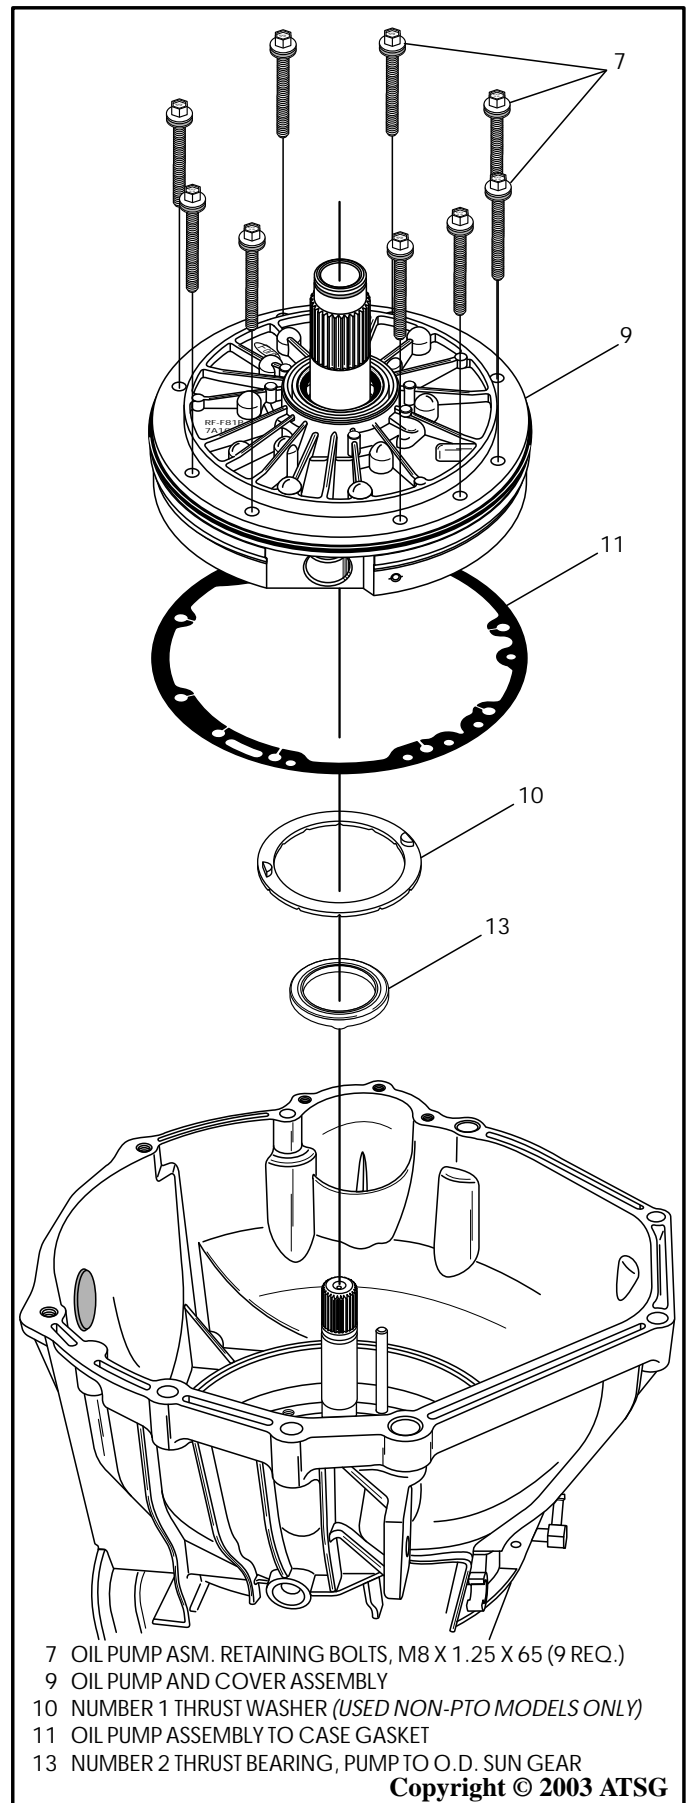

Figure 185
31. Install a new oil pump to case gasket on case surface, as shown in Figure 185, and use small amount of Trans-Jel® to help secure in place.
32. Install the pre-assembled oil pump assembly, ensuring the number 2 thrust bearing is secure with Trans-Jel® (See Figure 185).
35. Install new washers on pump bolts and install, as shown in Figure 185, hand tight only.